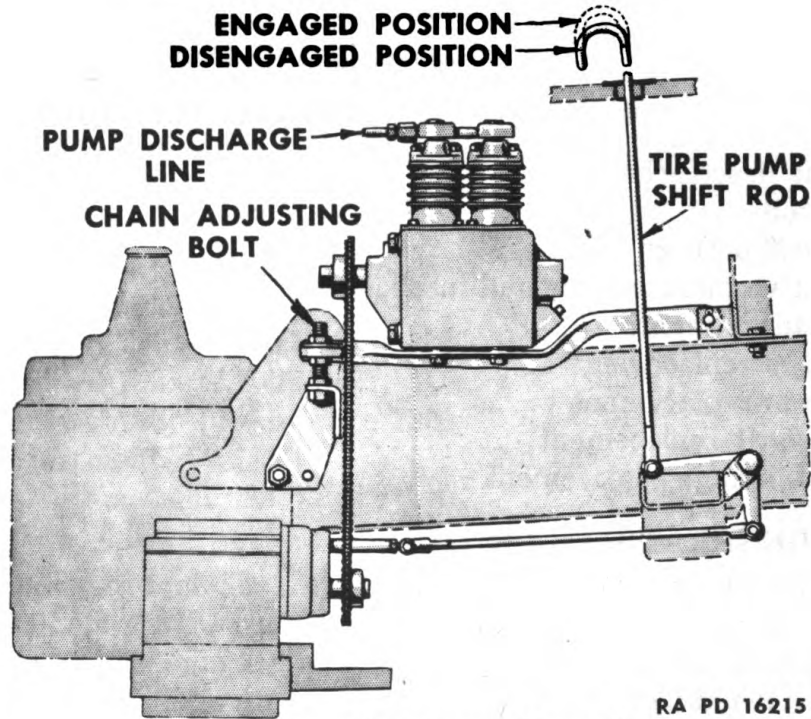

Figure 191—Tire Pump Mounting
(2) Adjust chain (see Fig. 191)